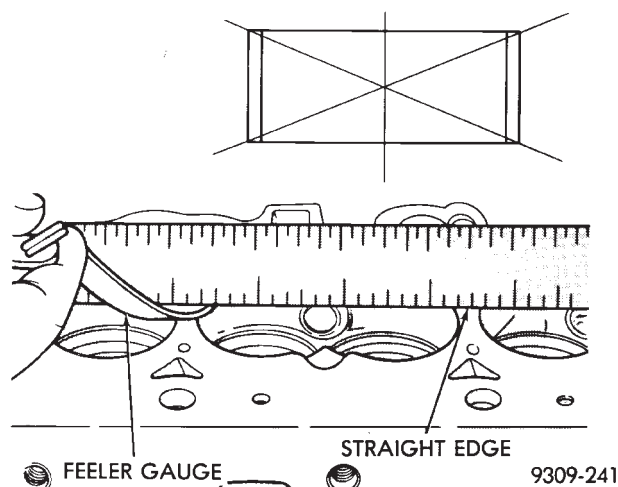

Fig. 14 Checking Cylinder Head Flatness
(1) Cylinder head must be flat within 0.1mm (.004 inch) (Fig. 14).
(2) Inspect camshaft journals for scoring and journal caps for oversize markings. When servicing cylinder head or camshaft, it is necessary to be certain that oversized camshafts are used only in oversized heads.